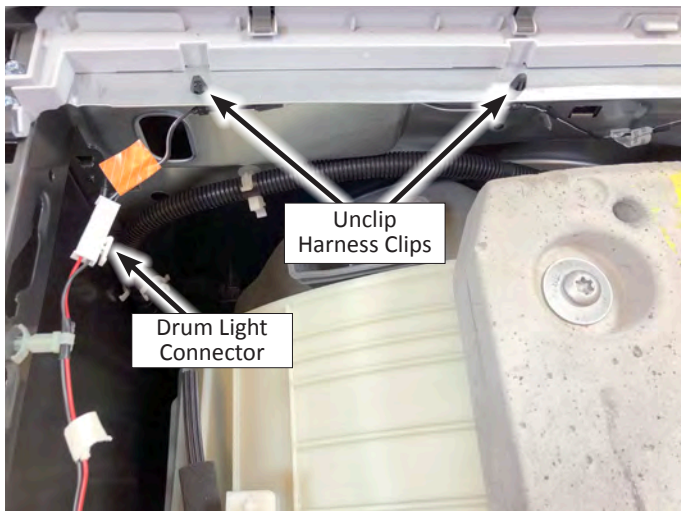

Figure 1
5. Disconnect the Drum Light connector (see Figure 1).
6. Unclip the three (3) harness clips (see Figures 1 & 2).